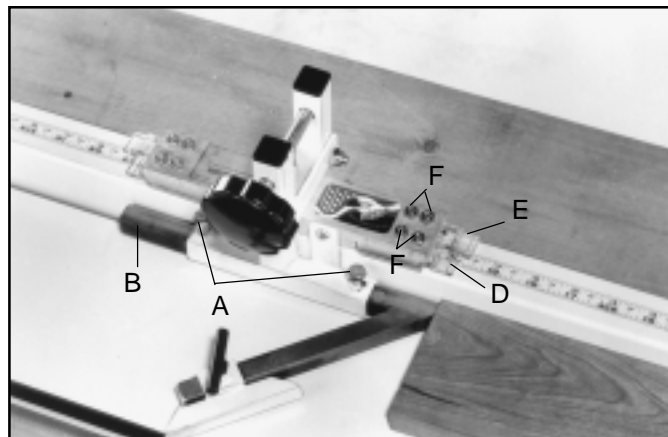

Fig. 17
The 78-994 Dual Pointer Inside/Cut-off Miter Stop is designed to act as a positive stop for 90 degree cut-off workpieces, as shown in Fig. 17, or 45 degree inside miter angles, as shown in Fig. 18. The outside edge of the 45 degree miter angle is supported by the adjustable stop block (C), as shown in Fig. 18. The stop can be used on either the right or left side of the saw blade as the stop bar (B) can be removed and inserted into the other end of the bracket by loosening the two screws (A) Figs. 17 and 18, Removing stop bar (B) and inserting stop bar into opposite end of bracket, making sure indent in stop bar is engaged with end of screw (A). Cursor (D) Figs. 17 and 18, is used for straight 90 degree cuts and cursor (E) is used when cutting 45 degree miter angles. The cursors (D) and (E) are adjustable by loosening screws (F), adjusting cursors (D) and (E) , and tightening screws (F).